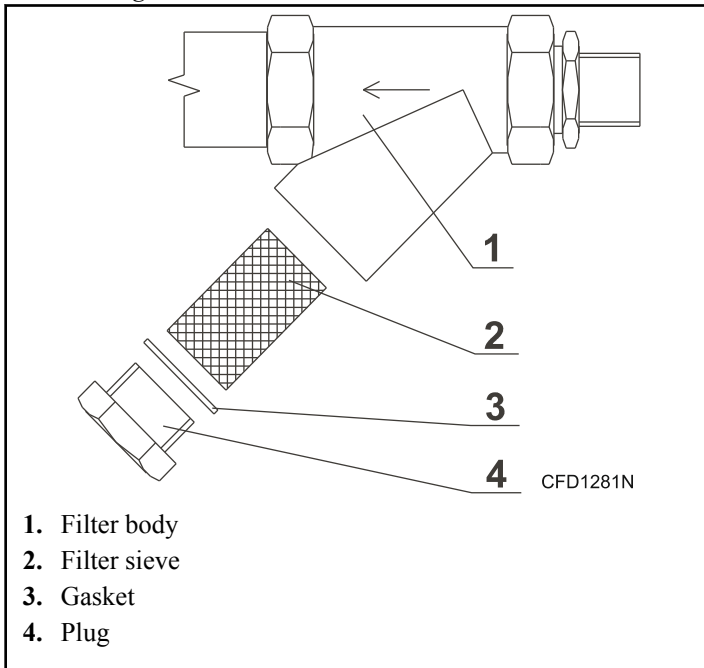

Figure 64
- Unscrew the filter plug and remove the filter sieve, refer to *Figure 64*.